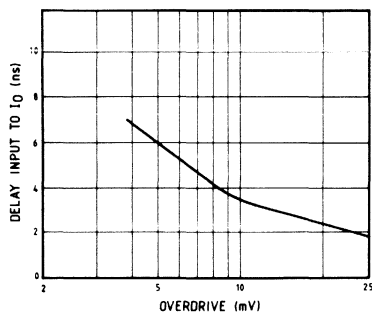

Fig.5 Input to I_o output delay v. overdrive
3. Due to the relatively low gain of the comparator in the unlatched state, propagation measurements are defined with a 25 mV overdrive. The relationship between overdrive and delay is shown in Figs.5 and 6.